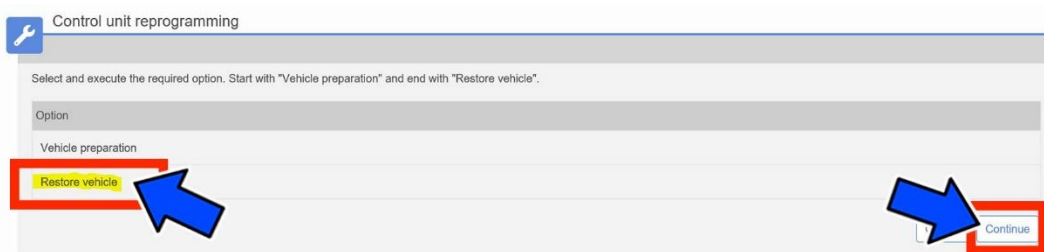

Figure 20 - Restore Vehicle
19. Select **“Restore Vehicle”** and then click **“Continue”** (Figure 20).